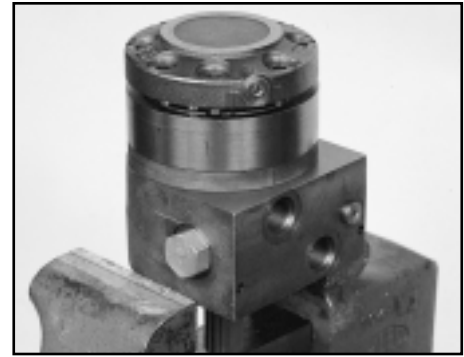

Figure A11
14. Place the cover (2) so the port markings (IN) (IN) are lined up with the corresponding ports. Also check the square ring seal (3) to verify that it hasn't dropped out. SEE FIGURE A11.